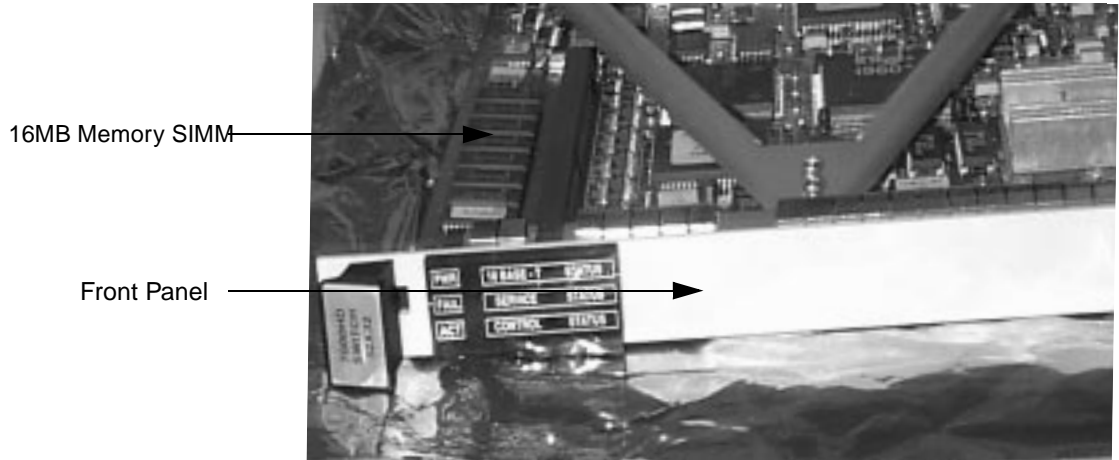
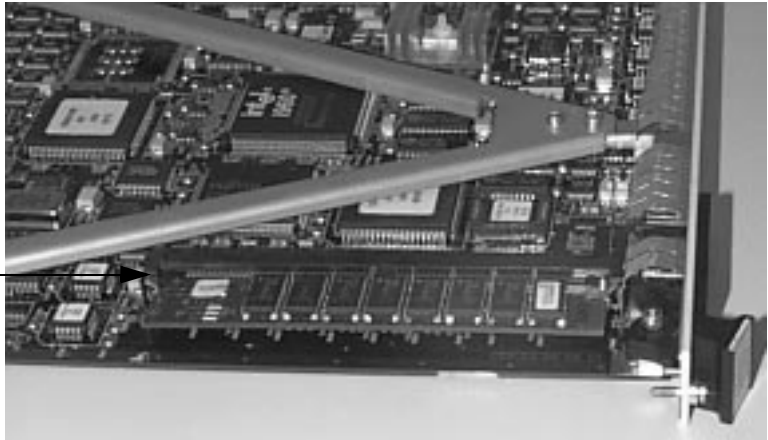

Figure 2-5 Position of 16MB SIMM in CoreBuilder 7000HD Switch Module - Front View
Figure 2-6 Side View of the Memory SIMM
- 1 The memory SIMM is located on the lower left corner of the module when the front panel is facing you. (Figure 2-5) On the top of the memory SIMM there are two metal spring clips (one on each side of the SIMM) that hold the SIMM in place (Figure 2-6).